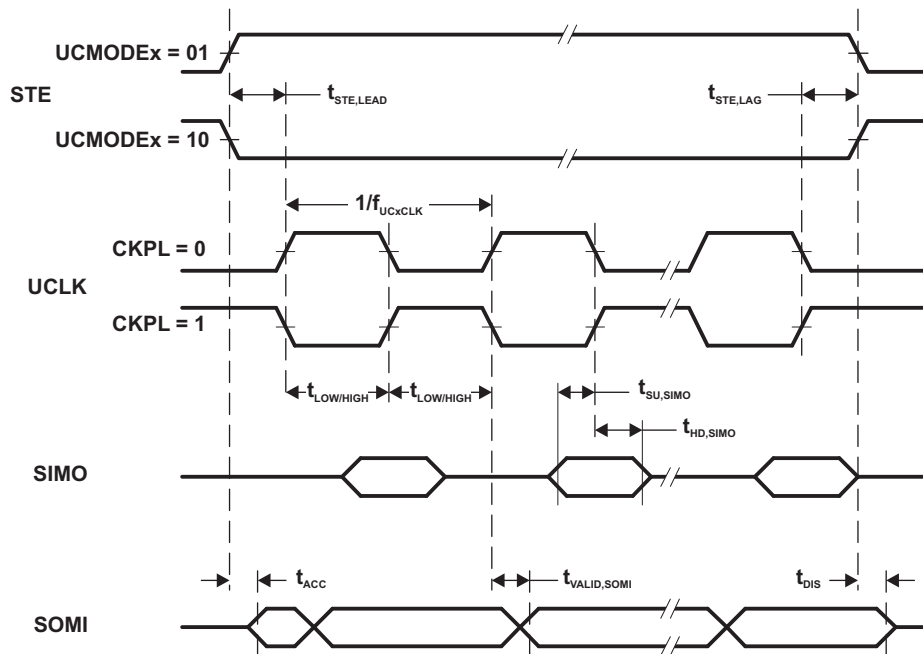
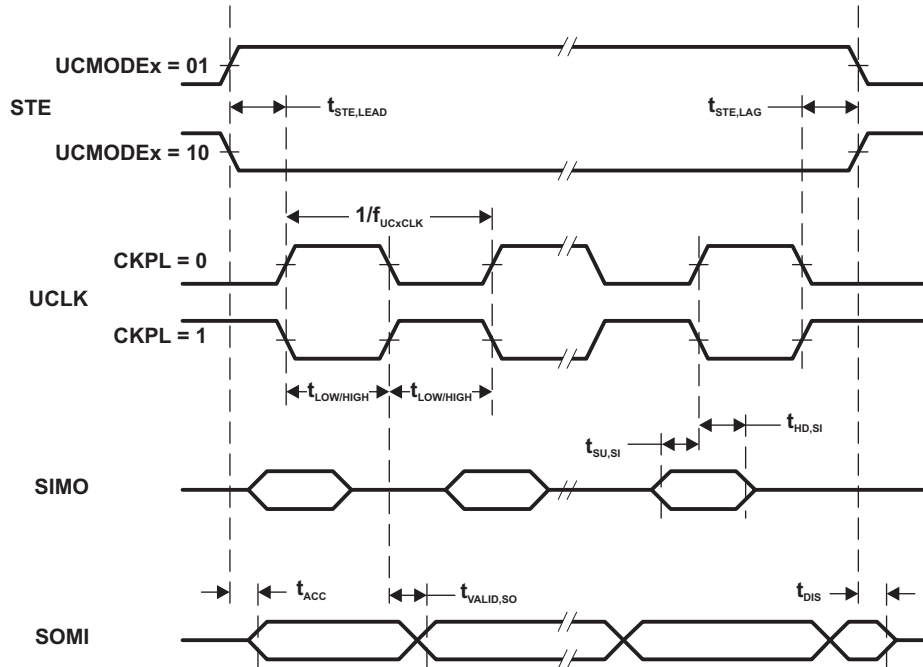

Figure 5-15. SPI Slave Mode, CKPH = 0
Figure 5-16. SPI Slave Mode, CKPH = 1
- (2) Specifies the time to drive the next valid data to the SIMO output after the output changing UCLK clock edge. See the timing diagrams in Figure 5-15 and Figure 5-16.
- (3) Specifies how long data on the SIMO output is valid after the output changing UCLK clock edge. Negative values indicate that the data on the SIMO output can become invalid before the output changing clock edge observed on UCLK. See the timing diagrams in Figure 5-15 and Figure 5-16.
- (1) $f_{UCxCLK} = 1/2t_{LO/HI}$ with $t_{LO/HI} = \max(t_{VALID,MO(Master)} + t_{SU,SI(eUSCI)}, t_{SU,MI(Master)} + t_{VALID,SO(eUSCI)})$. For the master's parameters $t_{SU,MI(Master)}$ and $t_{VALID,MO(Master)}$ refer to the SPI parameters of the attached slave.
- (2) Specifies the time to drive the next valid data to the SOMI output after the output changing UCLK clock edge. Refer to the timing diagrams in Figure 5-15 and Figure 5-16.
- (3) Specifies how long data on the SOMI output is valid after the output changing UCLK clock edge. Refer to the timing diagrams in Figure 5-15 and Figure 5-16.